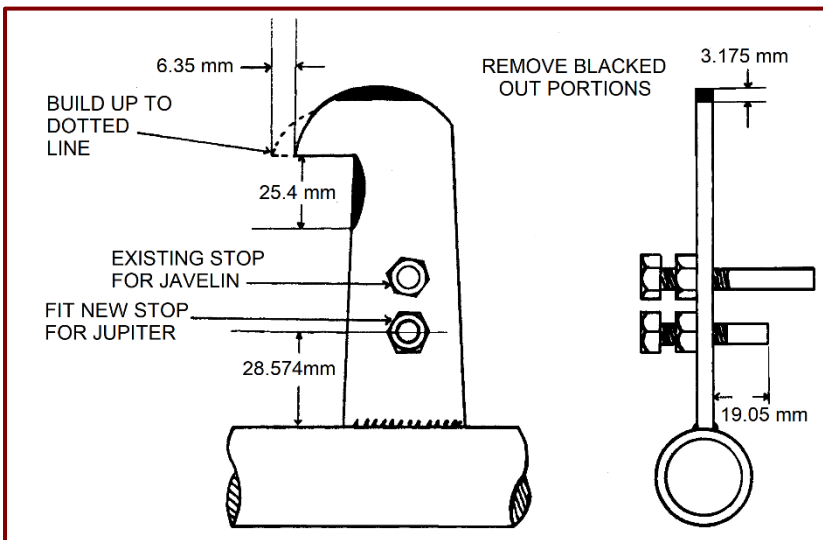

Figure 105. Frame Level Gauge.
3. Fit the frame level gauge (*Figure 105, Page 104*) and reset the torsion bar adjusters until a chassis height of 8¼" (210 mm) is obtained immediately below the rear of the spring arm trunnion. *It should be noted that the light weight of the body does not give sufficient loading on the torsion bars and it is necessary that two persons be seated in the car when this adjustment is carried out.*